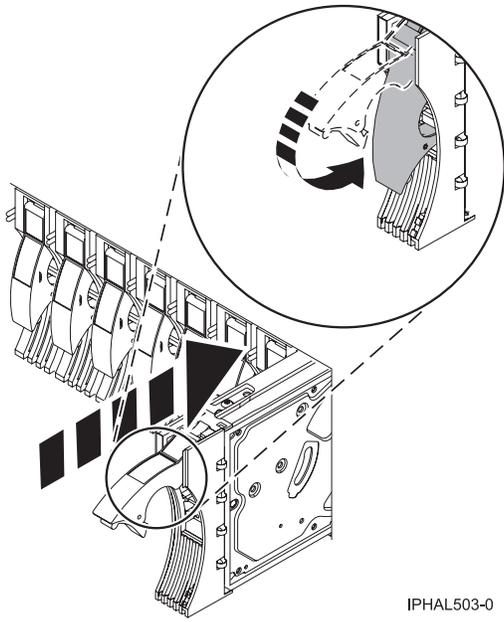

Figure 51. Installing a disk drive in a model
6. Install the disk drive as shown in Figure 51 on page 68.